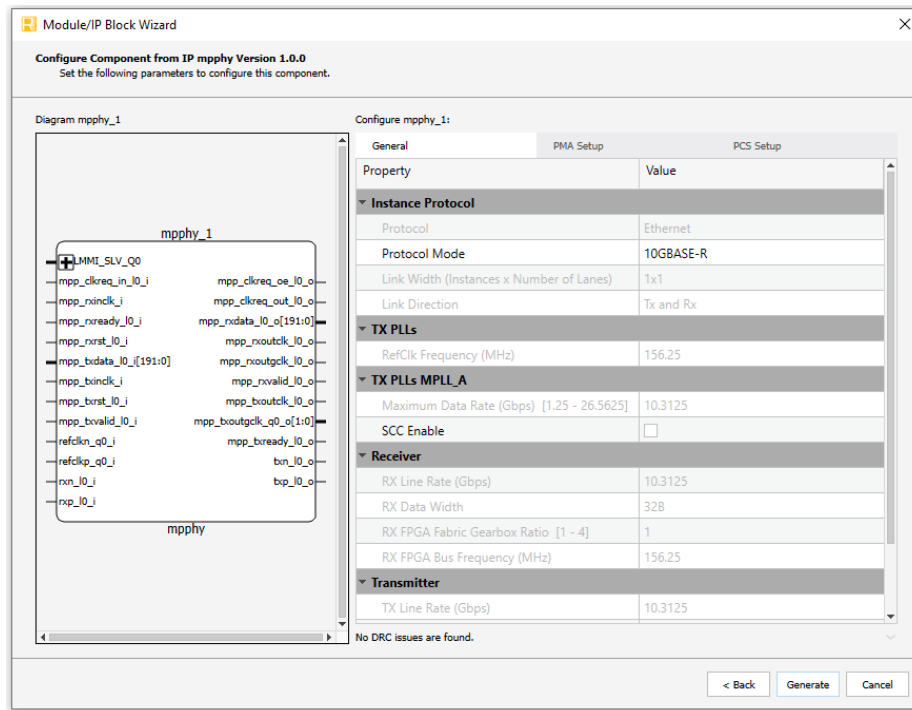

Figure 3.2. Configure User Interface of MPPHY Module
- In the module's dialog box of the **Module/IP Block Wizard** window, customize the selected MPPHY module using the drop-down menus and check boxes. Refer to Figure 3.2 for a sample configuration. For configuration options, refer to the Attributes Summary section.